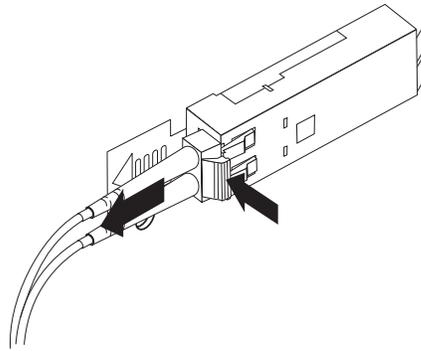

Figure 31. Removing the LC-LC fibre-channel cable
2. While pressing down the cable lever, carefully pull on the connector to remove the cable from the SFP module, as shown in Figure 31 on page 51.